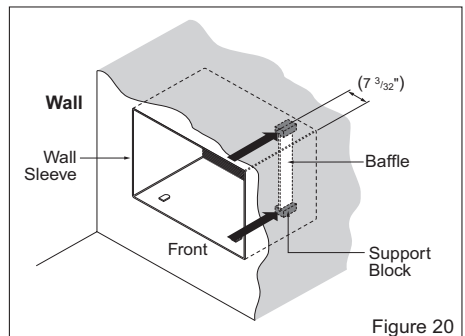

Figure 20
- 6 Remove the backing from the support blocks and attach them to the inside of the wall sleeve as shown in Figure 20. Slide the baffle in to slots of the support blocks.